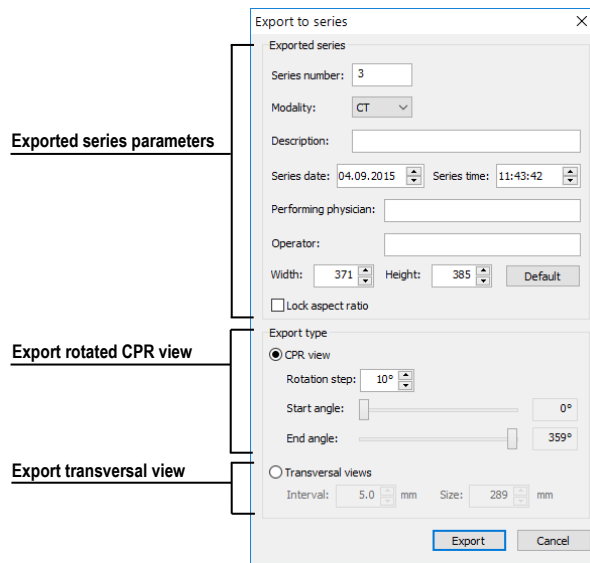

Figure 299 – Export to series dialog
2. The **Export to series** dialog will be displayed (Figure 299). Here you can specify: